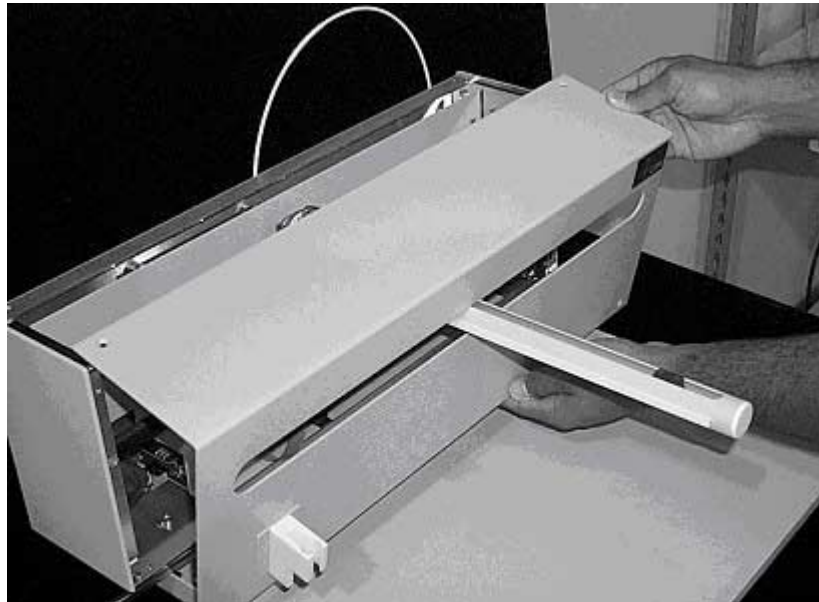

**Figure 1-6.** Removing the tray.
4. The Auto Sampler tray is next to be removed. Lift up the tray and pull forward. See Figure 1-6.